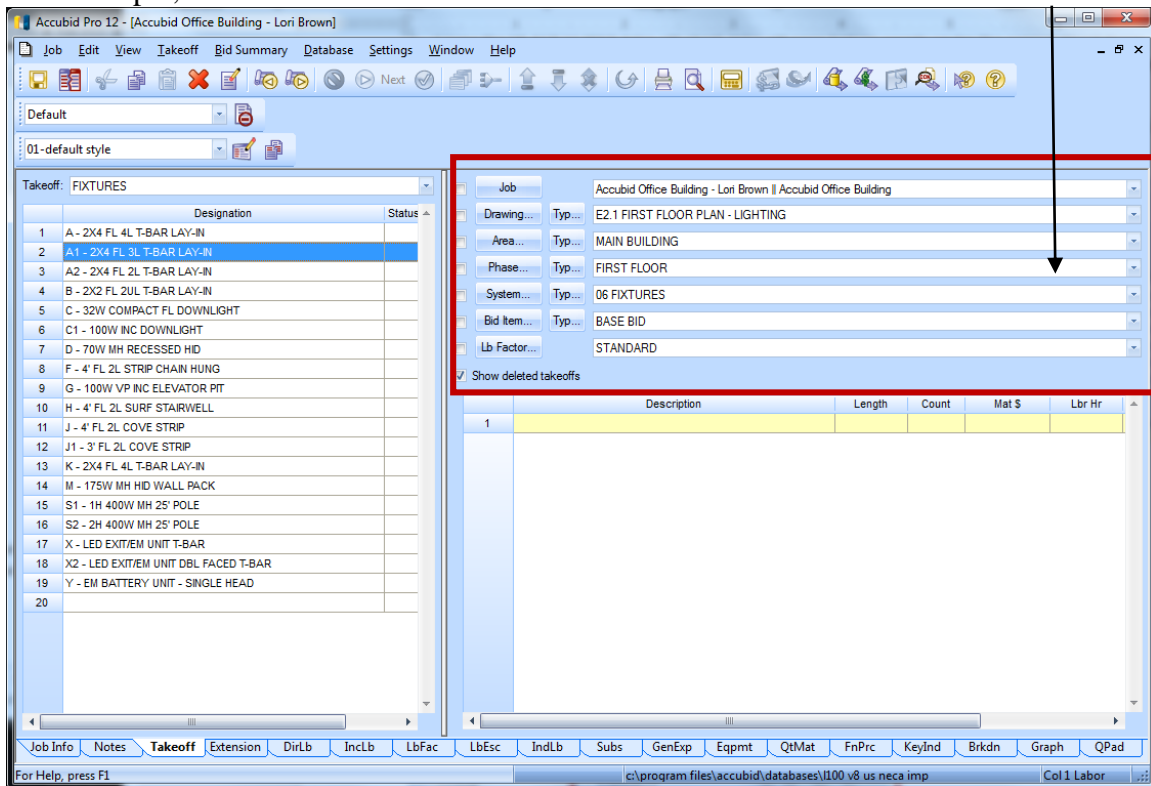

Figure 26
2. For Example, to takeoff the Fixture A1 on the First Floor set the breakdown as shown in Figure 26.